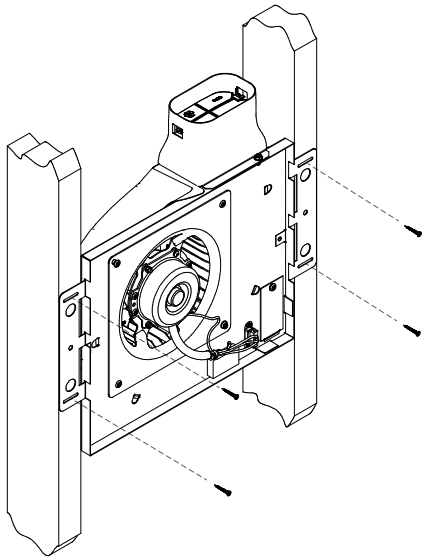

Figure 5
- Fasten fan to studs using screws (supplied by others) as shown in Figure 5.